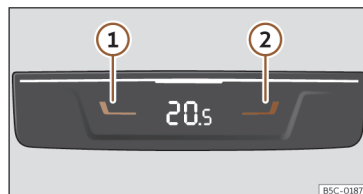

Fig. 116 In the centre console, rear section: controls for the rear seats.
- Press buttons **1** and **2** >>> **Fig. 116** to adjust the temperature of the rear zone.